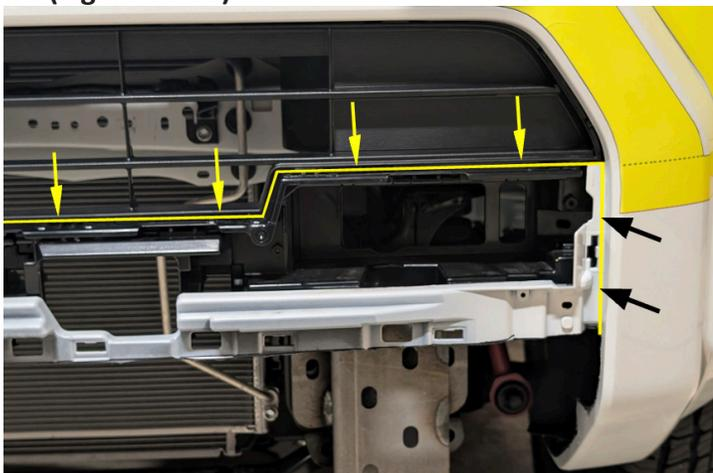

Figure 38
27. Cut the center section of the front bumper along the fog light profile. Cutline shown below in Figure 38. It is recommended that the edge of the cutting blade remain below the template line to ensure a clean fit. (Figure 38-39)